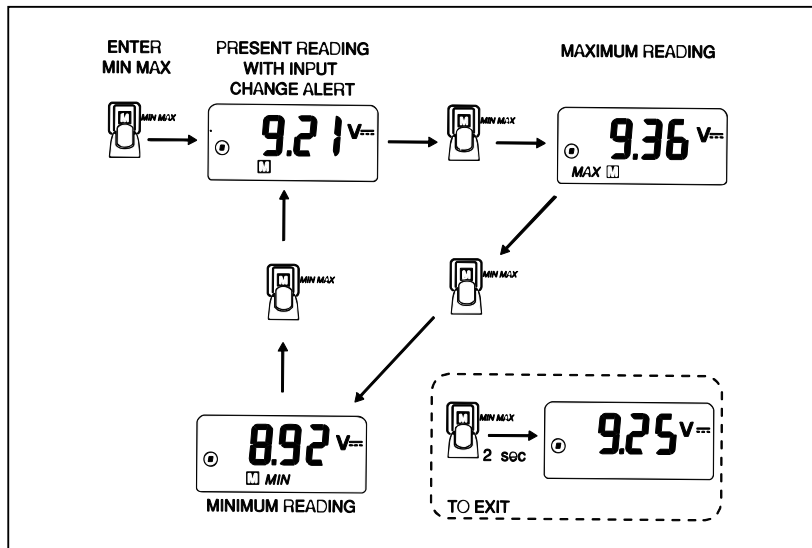

Figure 7. Displaying Minimum and Maximum Reading
4. Press $[M]$ to cycle through maximum, minimum, and present readings (see Figure 7). To exit MIN MAX and erase the stored readings, press $[M]$ for 2 seconds or change the measurement function.